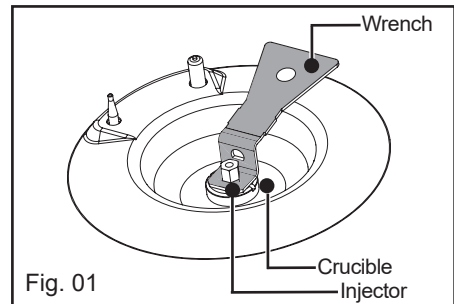

Fig. 01
- Use a **flexible metal corrugated hose** (stainless steel) with **screw-on mechanical connectors** (compliant with standard NF D 36-121) with an unlimited guarantee (Fig. 01).
- **Connection with a wavy metal hose** (stainless steel) with **screw-on mechanical connectors** (compliant with the NF D 36-125 standard) whose service life is unlimited (Fig. 01).
- Using the tool provided, unscrew and remove the injectors located under each crucible (Fig. 01).